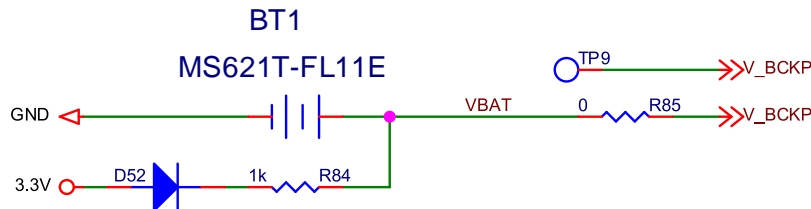

Figure 3-5 Backup Power Supply
- When the backup battery supplies power to V_BCKP, the battery charging circuit should be designed to prevent reverse current to ensure that the battery only supplies power to V_BCKP and the current does not flow back into the 3.3 V power domain, as the D52 shows in Figure 3-5.
- According to the maximum charging current of the battery, a current-limiting resistor should be added, as the R84 shows in Figure 3-5.